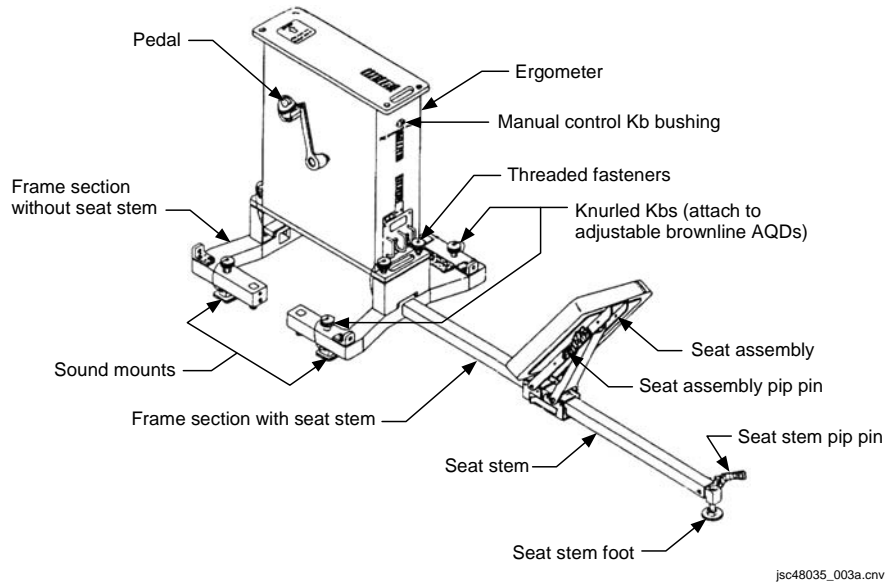

Figure 3-2.- Ergometer.
7. Mount both frame sections loosely to AQDs on seat floor studs (fig 3-2) using Knurled Kbs (four)
tighten with Wrench (see fig 3-2)